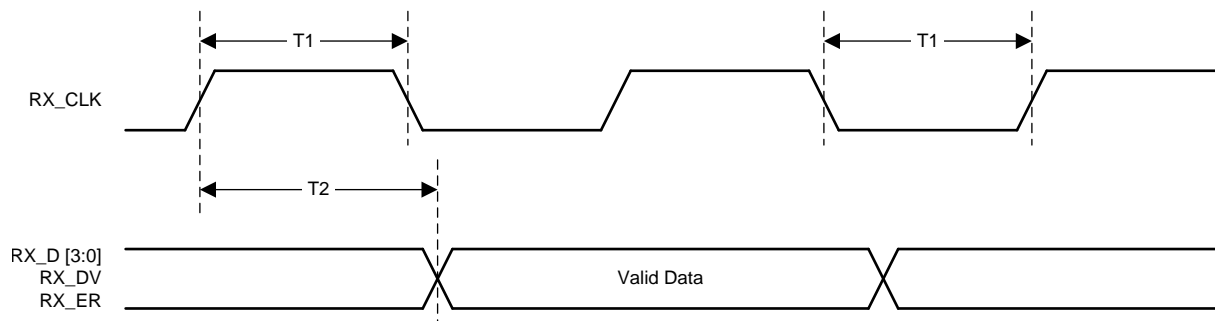

Figure 7. 10-Mbps Receive Timing
(1) Ensured by production test, characterization or design.
(2) See Figure 7.